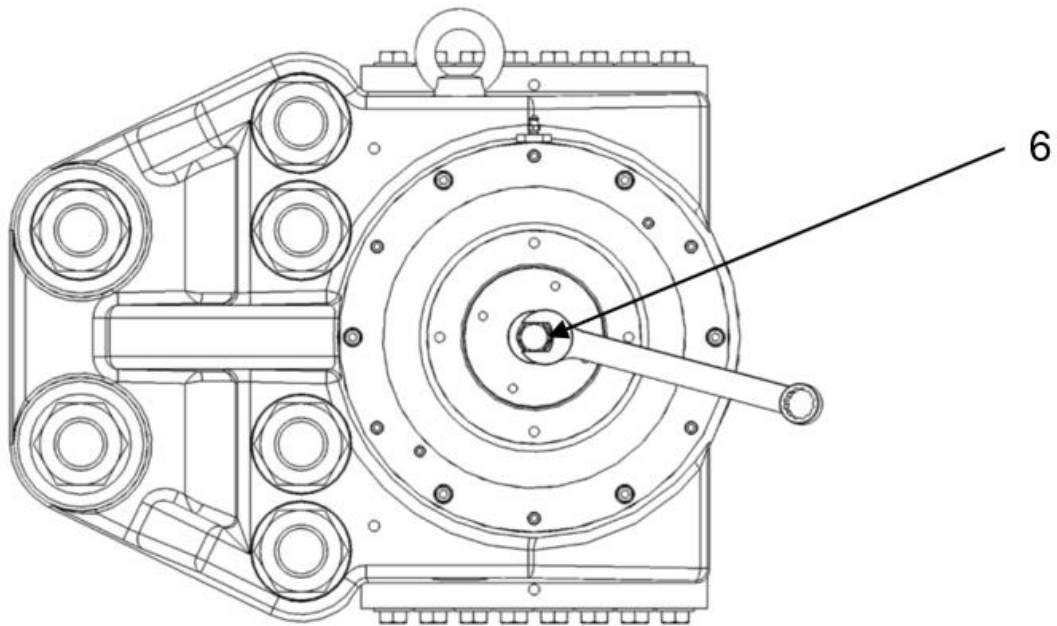

Fig. 5.5
6. Screw or unscrew using a flat spanner Fig.5.5 the adjuster screw **06** until the gap between the pad and the disc reaches the required value "PG" Pad Gap see type plate of the brake.
3. Remove the locking washer **15** to free the wear take up screw **06** Fig. 5.5 see chapter 5.3.
4. Screw or unscrew using a spanner or socket the wear take up screw **06** until the gap between the pad and the disc enables to put the new pad in position Fig.5.5.